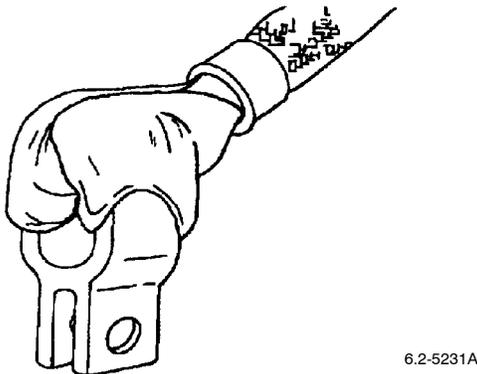

Figure 16. Draw Up Edges to Shackle
d. Install link line on drogue shackle, ensure drogue shackle nut is in the uppermost position. Tighten drogue shackle nut until one complete thread is visible. (QA)
a. Draw edges of withdrawal line upward to butt at centerline of shackle (Figure 16).